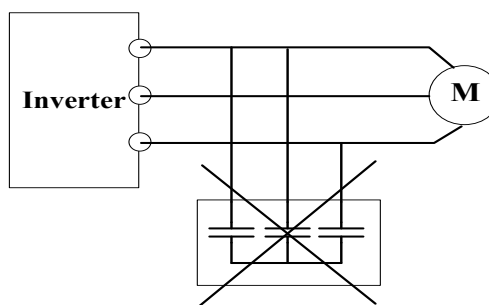

Figure 3-1 Capacitors are prohibited to be used
- Do not connect any varistor or capacitor to the output terminals of the drive because the drive's output voltage waveform is pulse wave, otherwise tripping or damaging of components may occur. In addition, do not install circuit breaker or contactor at the output side of the drive as shown in Figure 3-1.